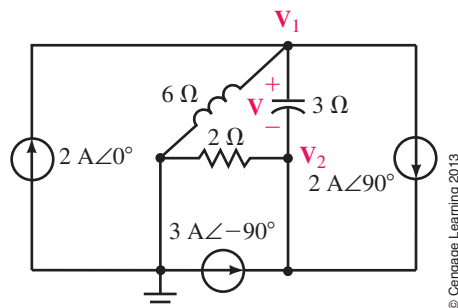

FIGURE 19–64
- Simplify the circuit of Figure 19–59, and write the nodal equations.